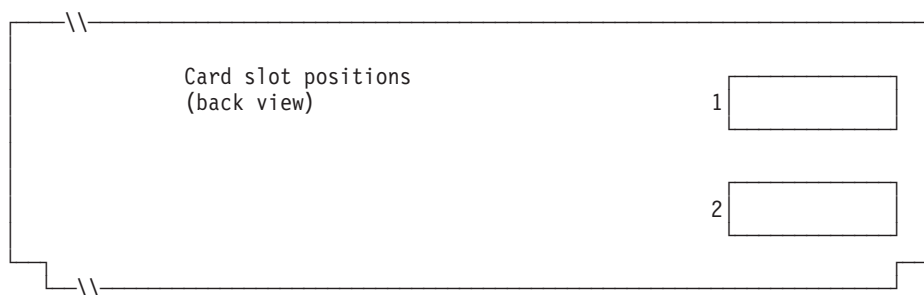

Figure 103. Rear of 4694-2x4 or 4694-245 Point-of-Sale Terminal
4. Mark an X on Figure 103 in each card slot that has a Dual Asynchronous Adapter card installed **for use by terminal applications**. Do not mark an X if the card is to be used by applications other than terminal applications use .